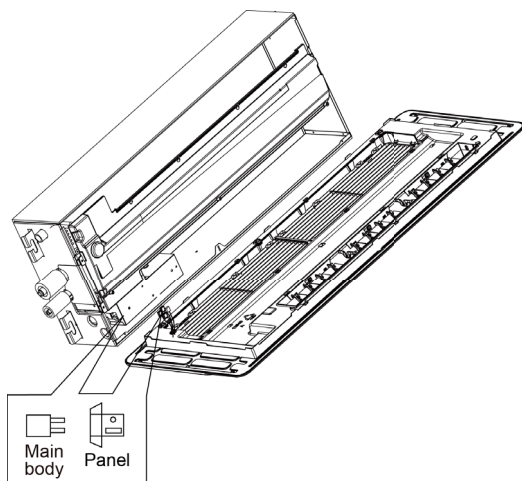

Fig 4.5.3
3. Connect the decoration panel terminals (Female) to body terminals (male) as shown in figure 4.5.3.